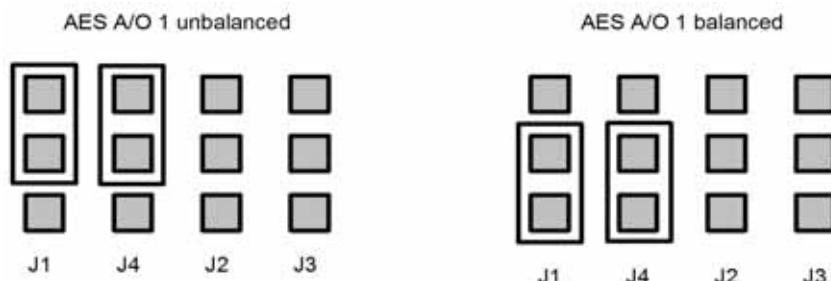
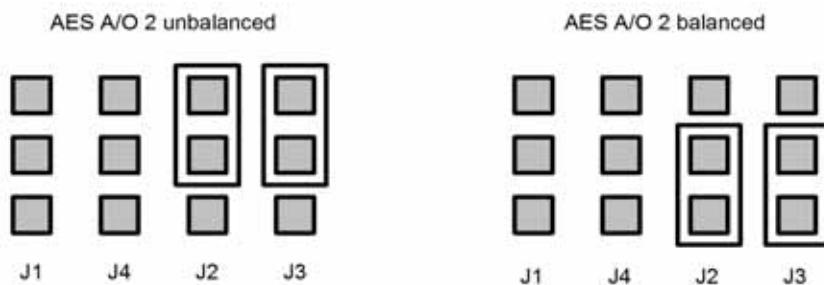

Figure 2-31 A/O 1 Jumpers
Figure 2-32 A/O 2 Jumpers
- 1 Move jumpers **J1** and **J4** to set the A/O 1 (top BNC connector) to either **Unbalanced** or **Balanced** (see Figure 2-31).
- 2 Move Jumpers **J2** and **J3** to set A/O 2 (bottom BNC connector) to either **Unbalanced** or **Balanced** (see Figure 2-32).
The ICONM-BO-V video breakout module includes two jumper packs (**A1** and **A2**), which are used for setting the serial port standard (RS-232 or RS-422). The orientation of the jumper pins in **Figure 2-31** and **Figure 2-32** matches the way you view them as you read the "J" labelling on the board.